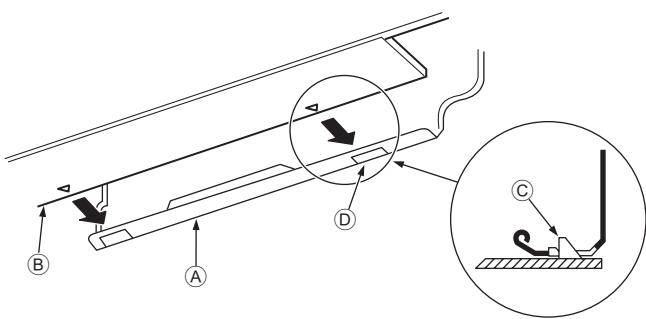

Fig. 3-15
3. While inserting the refrigerant piping and drain hose into the wall penetration hole (penetration sleeve), hang the top of the indoor unit to the mount board ①.
5. Fasten by pushing the bottom part of the indoor unit onto the mount board ①. (Fig. 3-15)
- * Check that the knobs on the bottom of the indoor unit are securely hooked into the mount board ①.
- (A) Mount board ①
- (B) Indoor unit
- (C) Hook
- (D) square hole